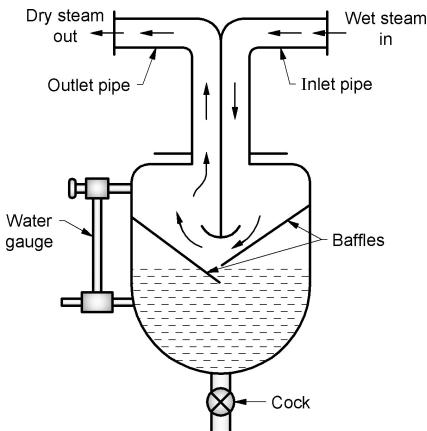

Fig. 2.16 Steam separator
- (1) It consists of inlet and outlet pipes provided with flange, baffles and water drain cock as shown in Fig. 2.16.
- (2) Wet steam from the boiler enters the steam separator through inlet pipe and flows down.
- (3) In its passage downwards, it strikes the baffles and gets deflected upwards but water particles having greater density and greater inertia fall to the bottom of the separator.
- (4) Dry steam moves up and is discharged through outlet pipe.
- (5) A water gauge indicates the level of water in the separator.
- (6) The water collected in the separator is removed periodically through the drain pipe by opening the drain cock.